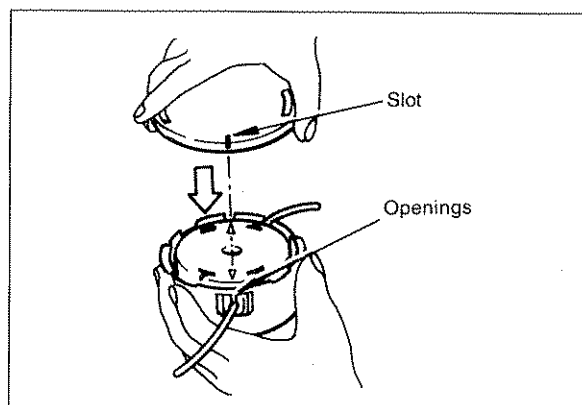

Fig. 35
5. Take the ends of the cord from the outlets in the spool and thread them through the outlets in the housing (Fig. 35). Now replace the cover so that the slot in the underside of the cover and the opening in the housing line up.